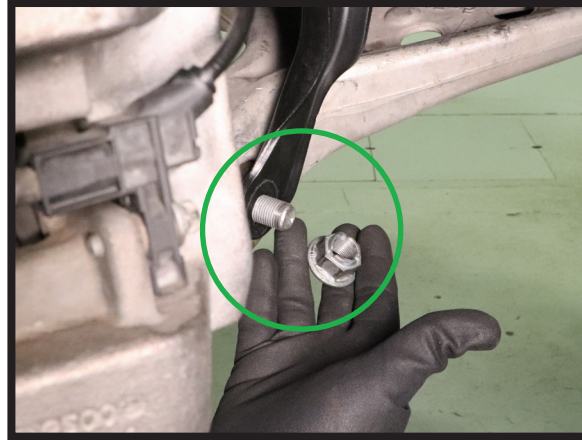

FIGURE 11
10. REMOVE LOWER STRUT MOUNT NUT. LEAVE THE BOLT IN PLACE. (FIGURE 11)